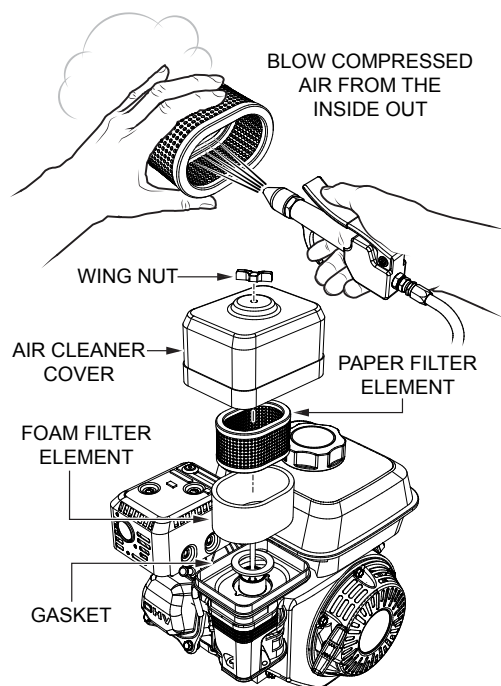

Figure 33. Engine Air Cleaner
1. Remove the air cleaner cover and foam filter element as shown in Figure 33.
2. Tap the paper filter element (Figure 33) several times on a hard surface to remove dirt, or blow compressed air [not exceeding 30 psi (207 kPa, 2.1 kgf/cm²)] through the filter element from the air cleaner case side. **NEVER** brush off dirt. Brushing will force dirt into the fibers. Replace the paper filter element if it is excessively dirty.